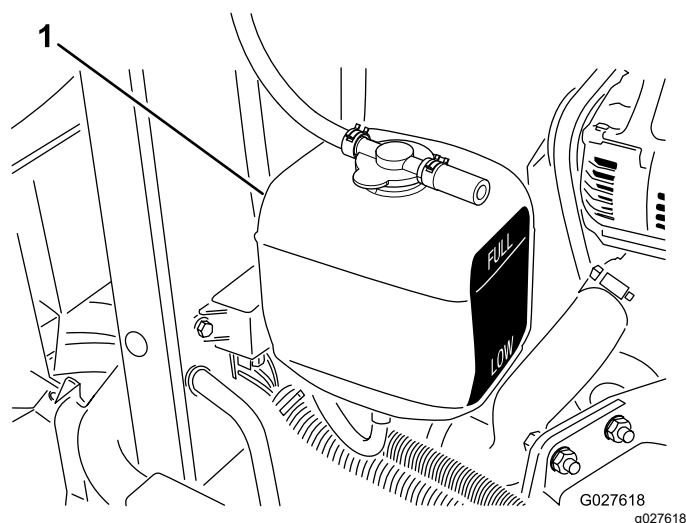

Figure 71
3. Check the coolant level in the expansion tank (Figure 71).